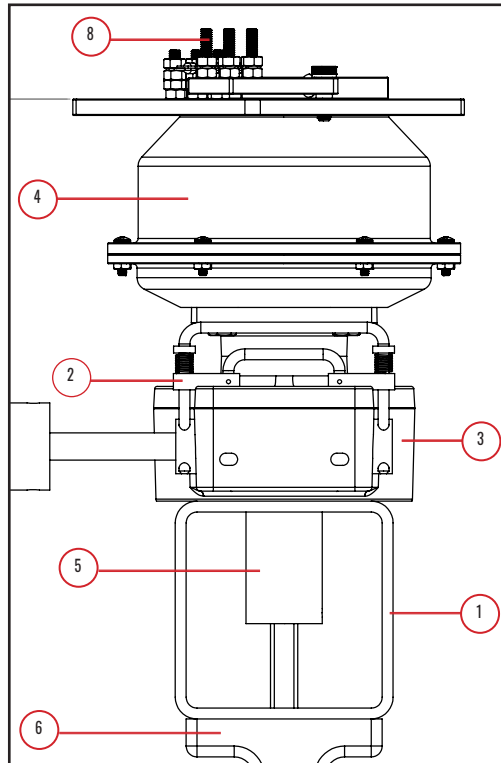

FIG. 6 ASSEMBLY DRAWING FL-HT-0600
**NOTE: PLEASE REFER TO ASSEMBLY DRAWING FL-HD-0600 (FIG. 6) FOR PARTS IDENTIFICATION AND A COMPLETE PARTS LIST (TABLE 2).**